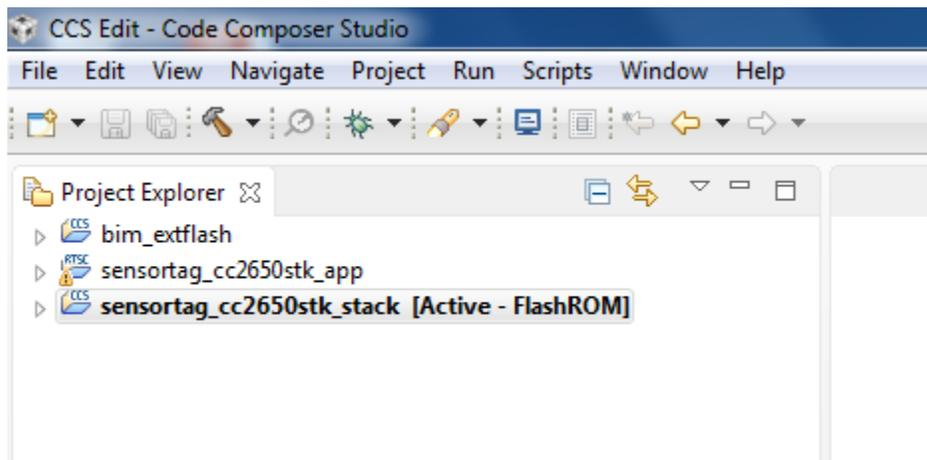

Figure 30, Project Explorer with imported projects.
- g. Click Finish. The `bim_extflash` project should appear in the Project Explorer along with the `sensortag_cc2650stk_app` and `sensortag_cc2650stk_stack` projects. (Figure 30).